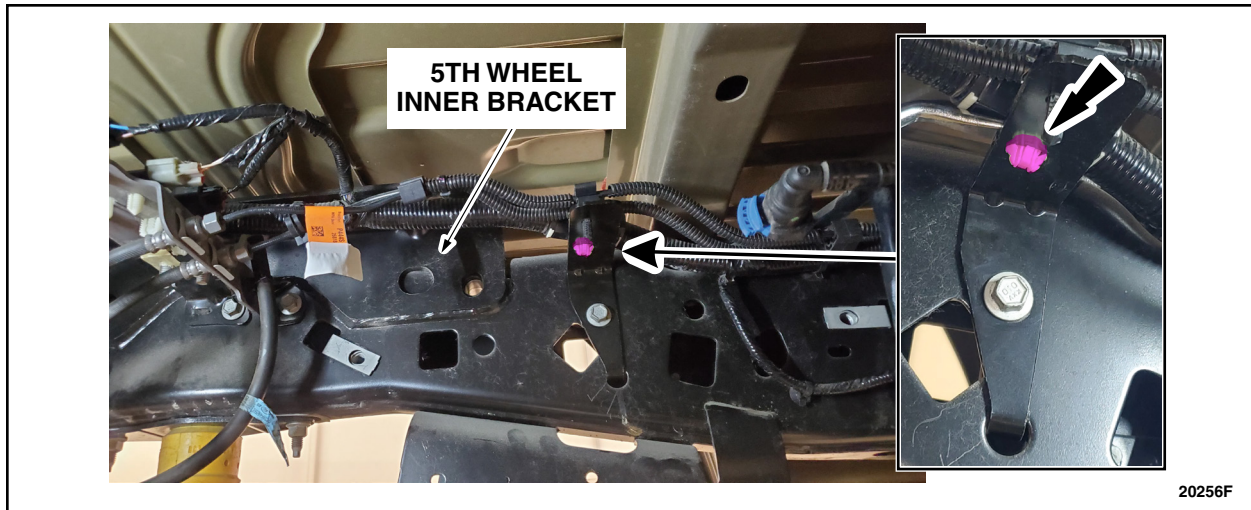

FIGURE 7
11. Remove the christmas tree retainer that is connecting the harness to the bracket on the right side of the 5th wheel inner bracket. See Figure 7.